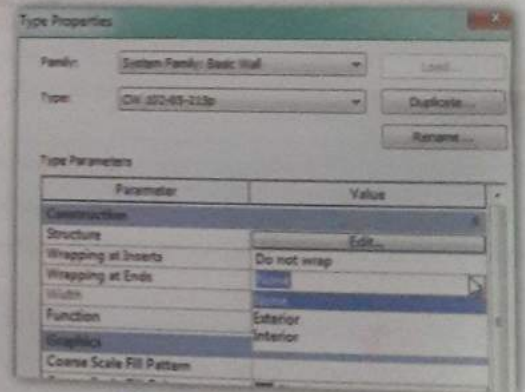

Figure 61: Layer wrapping
4. To set individual layers to wrap, select the Wraps check box at the end of each layer (Figure 61).